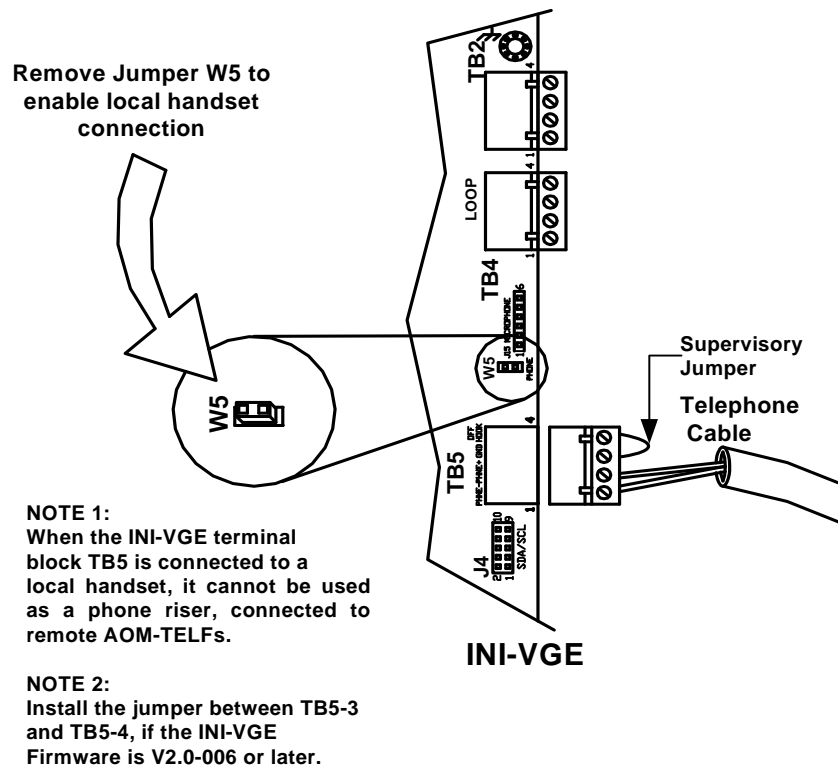

Figure 2.6.9.1 Fire Fighter's Intercom Handset Assembly
5. Remove INI-VGE jumper W5 to enable local handset connection. See Figure 2.6.9.1.